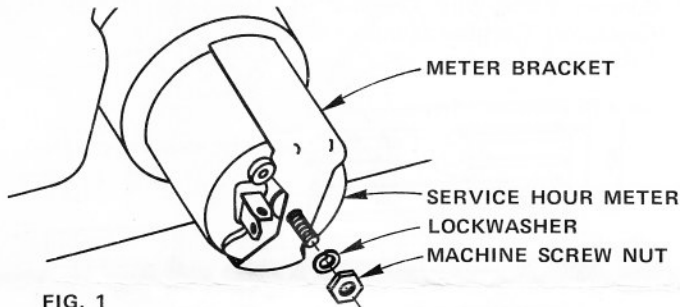

FIG. 1
4. (Model Numbers 917.2595(0 and up), 917.2594(0 and up) and 917.2593(0 and up) only). Place Service Hour Meter in position and secure with Meter Bracket and Lockwasher and Machine Screw Nut provided (Fig. 1).